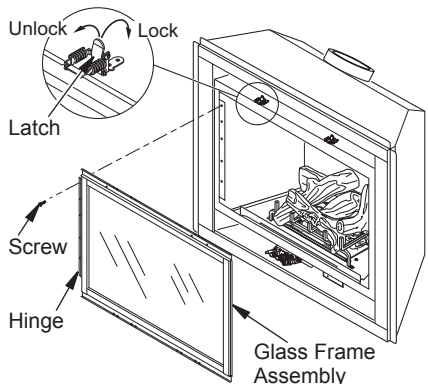

Figure 42 - Removing/Replacing Glass Door
2. Lift up on latches to unlock. There are two on top of firebox and two below firebox that hold glass door in place (see Figure 42).
3. While holding glass door to prevent it from falling and causing injury, remove 5 screws from hinge located on left side of door frame assembly (see Figure 42).
5. Close glass door frame. Lock latches by placing bar under tab on door and pushing down and back on latch (see Figure 42, page 25).